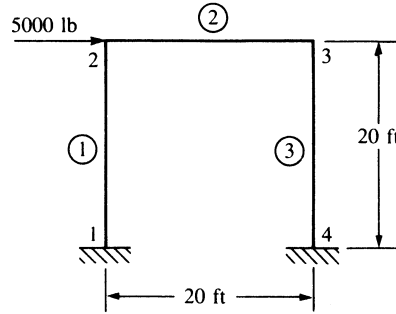

Figure P5-2
- 5.2 For the rigid frame shown in Figure P5-2, determine (1) the nodal displacement components and rotations, (2) the support reactions, and (3) the forces in each element. Let  $E = 30 \times 10^6$  psi,  $A = 10$  in2, and  $I = 200$  in4 for all elements.